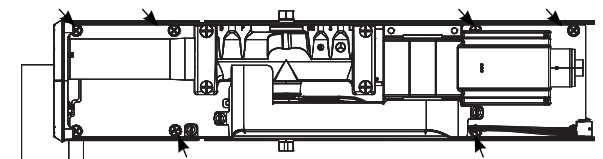

Figure 11
4. Using six (6) 1/4-20 x 1/2" Phillips head screws, secure LAP to backplate. (Figure 11)